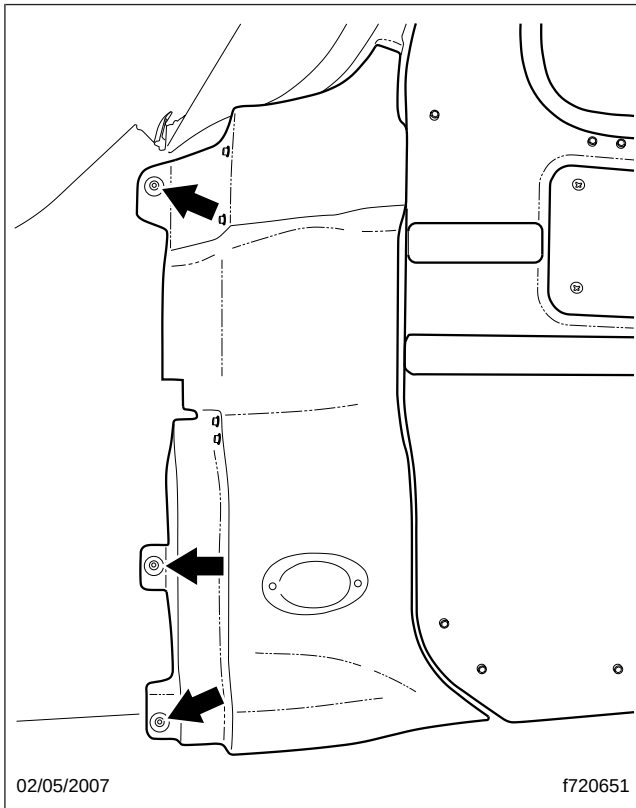

Fig. 2, Cowl Side Panel Forward Fasteners
- 7.1 Remove the two Torx screws and washers at the forward edge of the cowl side panel; see Fig. 2.